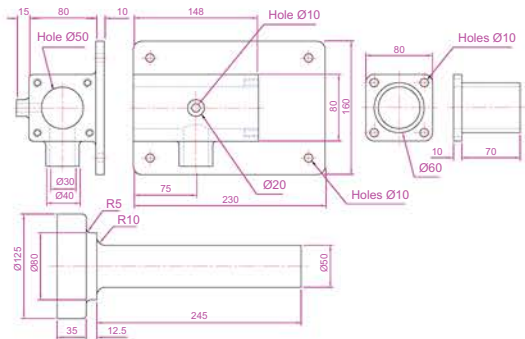
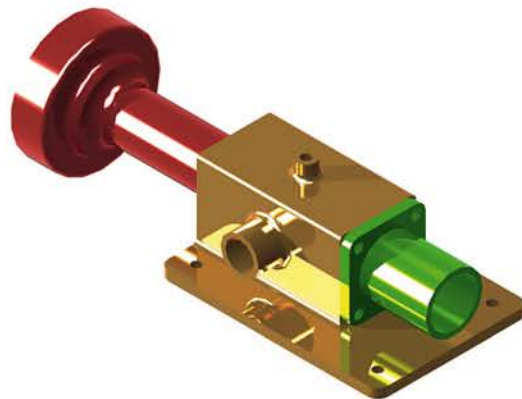

Fig. 19.22 Exercise 2 – details of shapes and sizes
Fig. 19.23 Exercise 2
- Working to the dimensions given in the orthographic projections of the three parts of the 3D model Fig. 19.22, construct the assembled as shown in the rendered 3D model Fig. 19.23. Add suitable lighting and materials, place in one of the isometric viewing positions, and render the model.